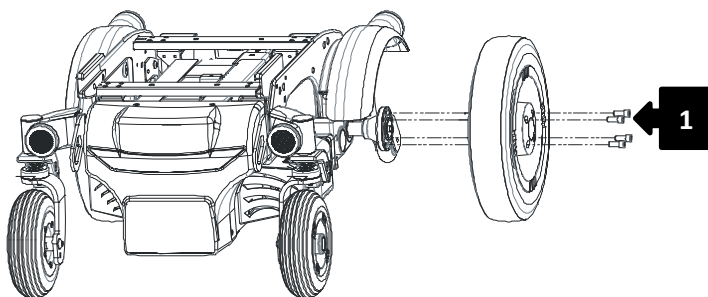
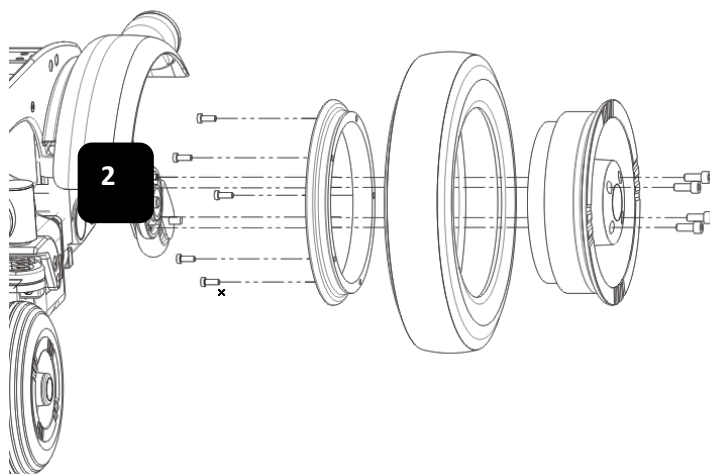

Figure 48
Figure 49
Remove the screws (1) shown in Figure 48 with a 6 mm allen wrench and remove the wheel of traction. Then remove the screws (2) indicated in Figure 49 and take away the rim; after that it is possible to remove the tire with its tube.